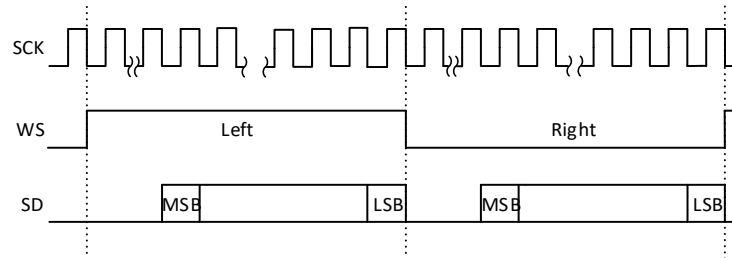

Fig 22-9 Right-justified standard
- Serial data is right justified, as Fig 22-9 shows.